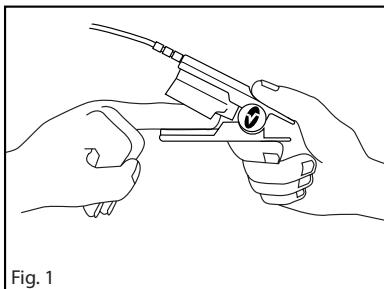

Fig. 1
1. Refer to **Fig. 1**. Open the sensor by pressing on hinge tabs. Place the selected digit over the sensor window of the DCI or DCI-P. The fleshiest part of the digit should be covering the detector window in the lower half of the sensor. The top half of the sensor is identified by the cable. On a finger site, the tip of the finger should touch the raised digit stop inside the sensor. If the fingernail is long, it may extend over and pass the finger stop.